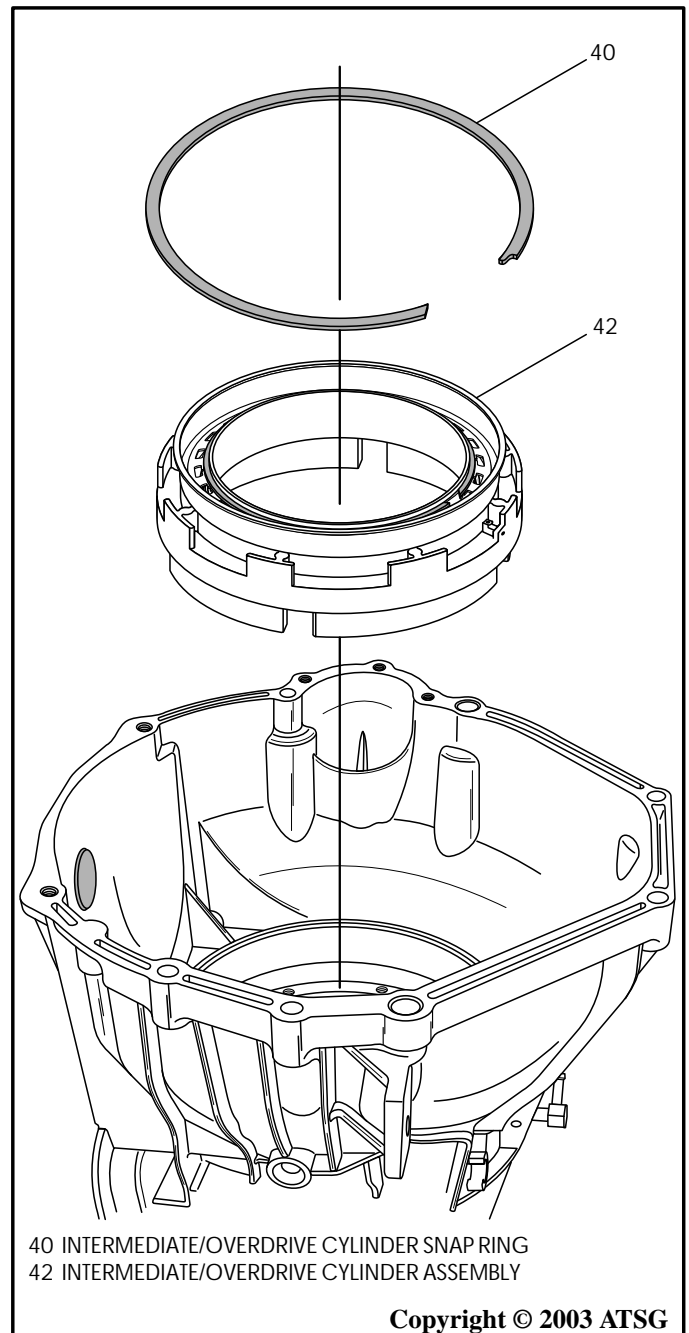

Figure 179
13. Install pre-assembled intermediate/overdrive cylinder assembly, as shown in Figure 179, and align the feed hole.